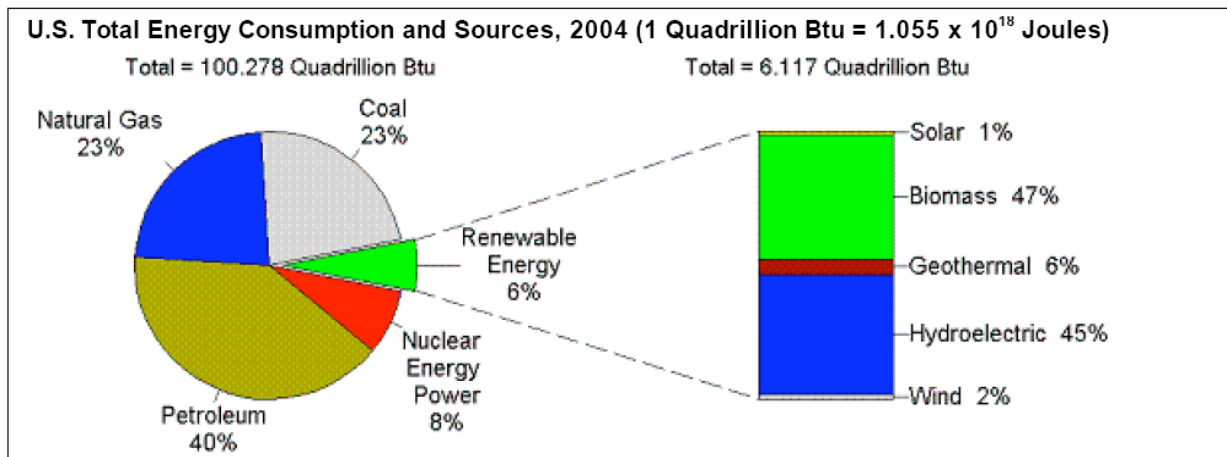

Figure 1
While most circuits use batteries or power from the electric grid, an illuminated solar cell creates a voltage source that can be used to drive current through a circuit. No chemical reactions occur in a solar cell (i.e. it is never used up like a battery), it creates no CO₂ emissions, and it is a truly renewable resource. Photovoltaic (PV) panels are generally considered the cleanest (no emissions) and most environmentally benign way to generate electrical power, but are not currently cost competitive with other forms of power generation. The total of PV generated electricity is currently a tiny, but growing, fraction of our electricity supply. Some interesting energy facts are shown in Figure 1 below.
1. Use the data in Figure 1 to calculate the average power consumption in the US over the course of a year.